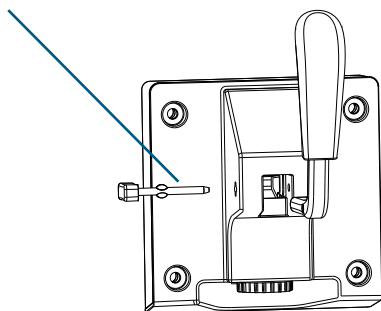

Figure 3
Insert the handle and handle assembly, as shown in Figure 3.
3. Push ① into ② and then upward, and hear the sound of "click", as shown in Figure 3.